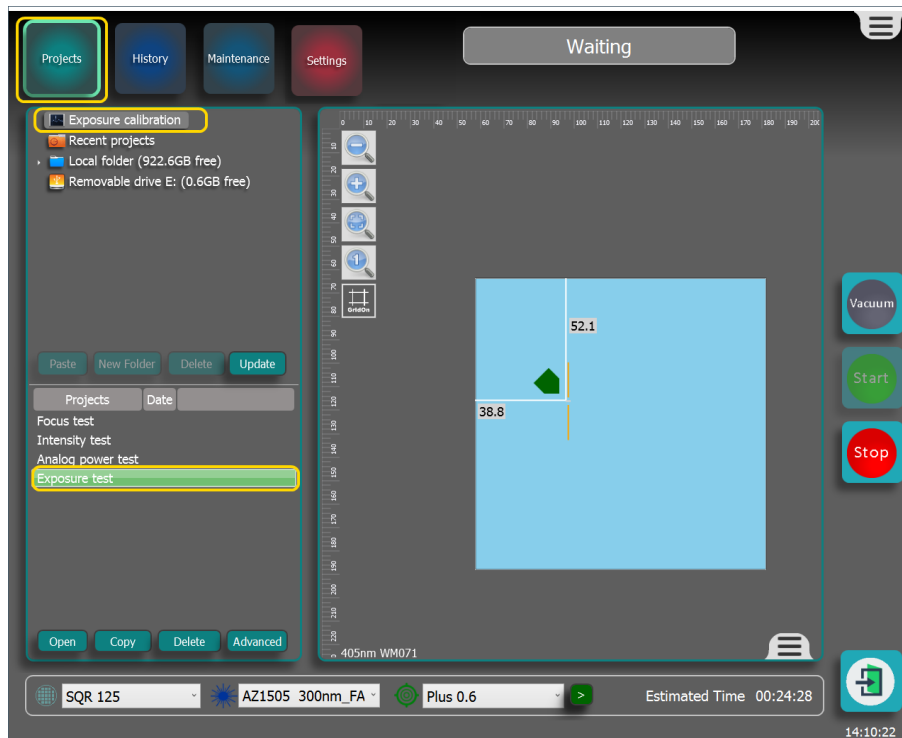

Figure 3-77 Starting the Exposure Test
2. To start the Exposure Test, select **Projects**, see **Figure 3-77** on the facing page.